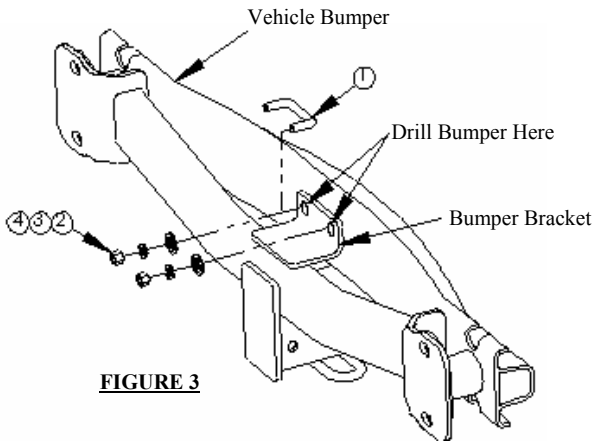

FIGURE 3
①	Qty. (1)	U-bolt, 3/8"	③	Qty. (2)	Lockwasher, 3/8"
②	Qty. (2)	Conical Washer, 3/8"	④	Qty. (2)	Hex nut 3/8"
4. Clamp the hitch and the bumper to each other off of the vehicle. Align the mounting holes on the hitch and the bumper, as shown in **Figure 3**. Make sure that the threaded hole in the bumper is on the passenger side. Drill two holes in the bumper, using the holes in the bumper bracket as a template.
5. Feed the u-bolt through the bumper bracket and the bumper. Fasten in place as shown in **Figure 3**, finger tight.